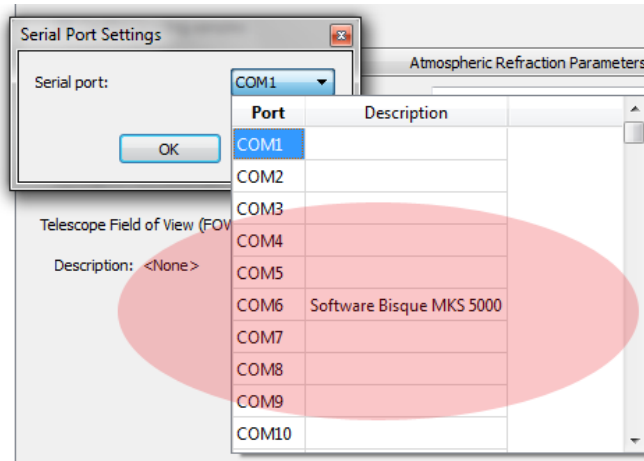

Figure 69: Selecting the COM port from *TheSkyX Professional Edition for Windows*.
5. From *TheSkyX Professional Edition's* mount **Settings** window, select the COM port on the **Telescope > Telescope Setup > Mount Setup pop-up > Settings > Serial Port** list with the description **Software Bisque MKS 5000** (Figure 69).